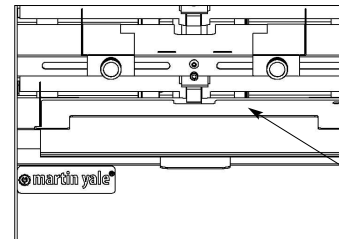

Figure 7
3. Use the 11.0" or 210mm top plates on top of the stock. (Fig. 7)